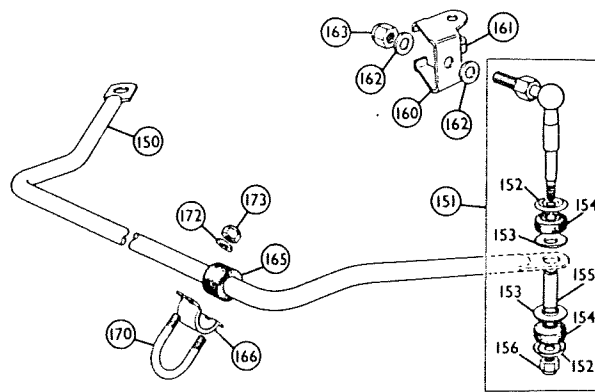

Figure CH-23: Optional TR4 Front Anti-Roll Bar
- Anti-Roll Bar. This bar is shown in Figure CH-23. The bar is black with natural hardware. This bar is only listed for the TR4.